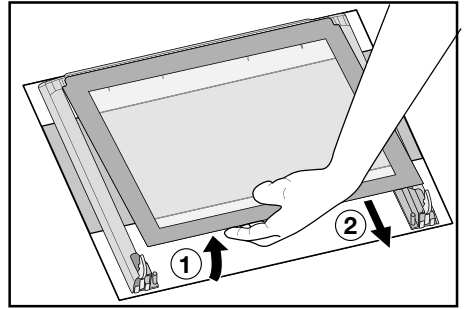

Fig. 15
- 9) gently lift and carefully take off the uppermost pane marked by a decorative frame on 4 sides (Fig. 15).